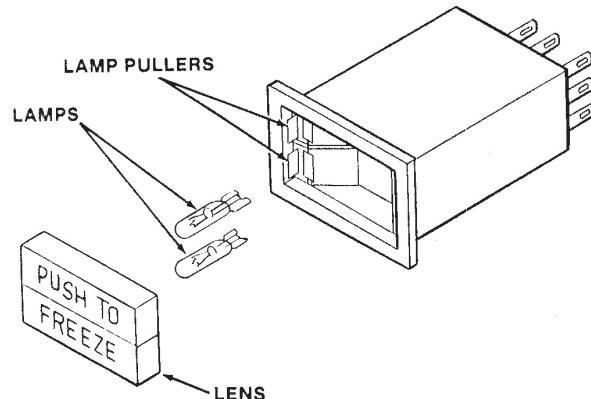

Figure 33. Push To Freeze Light/Switch Assembly
B. Remove the faulty lamp by pulling out the lamp puller (See Fig. 33).